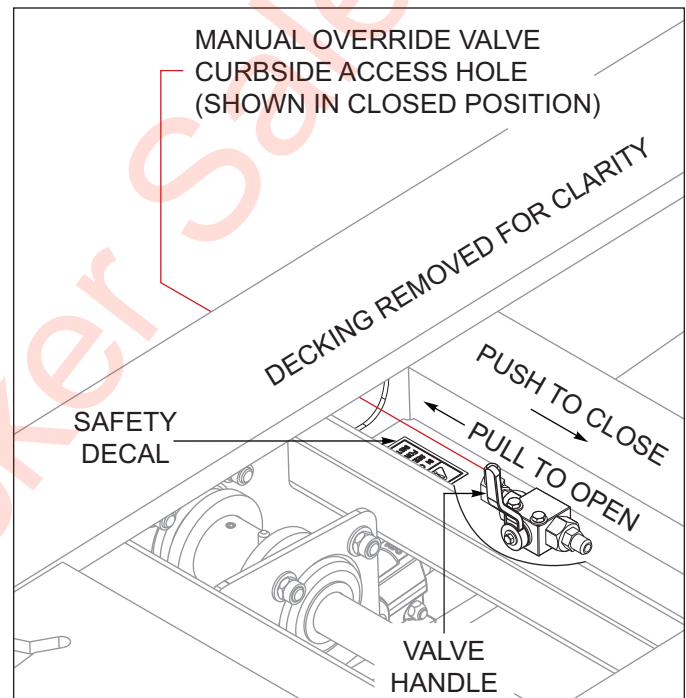

Figure 3-23: Manual Override Valve
1. Unlock the ramp by pulling the Manual Override Valve Handle fully down to open. *See Figure 3-23*
3. Leave the Manual Override Valve Handle fully down in the open position and complete the task. *See Figure 3-23*
4. Leave the Manual Override Valve Handle fully down in the open position, until repair has been completed, *See Figure 3-23*. Remove trailer from service and proceed to Troubleshooting. *See Ramp, Front Power (Option) Problems on Page 6-10.*